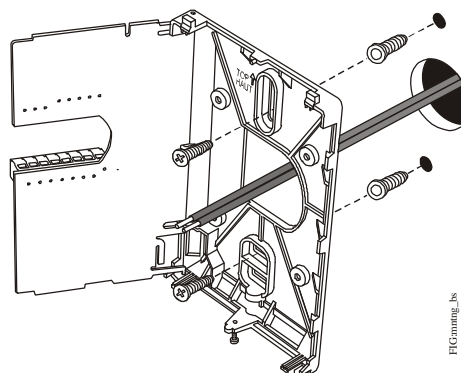

Figure 3: Securing the Thermostat Controller Mounting Base to the Wall
7. Position the thermostat controller mounting base on the wall and use the two mounting screws (included with the thermostat controller) to secure the base to the wall surface as illustrated in Figure 3.